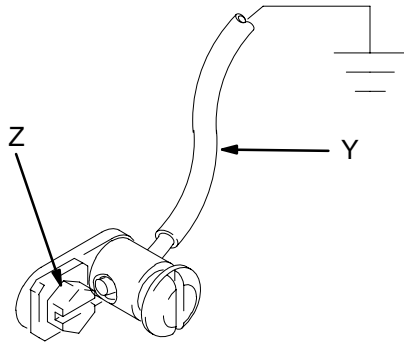

Fig. 1
1. *King Pumps*: use a ground wire and clamp. See Fig. 1. Remove the ground screw (Z) and insert through eye of ring terminal at the end of ground screw (Y). Fasten ground screw back onto pump and tighten securely. Connect the other end of the wire to a true earth ground. Order Part No. 222011 Ground Wire and Clamp.